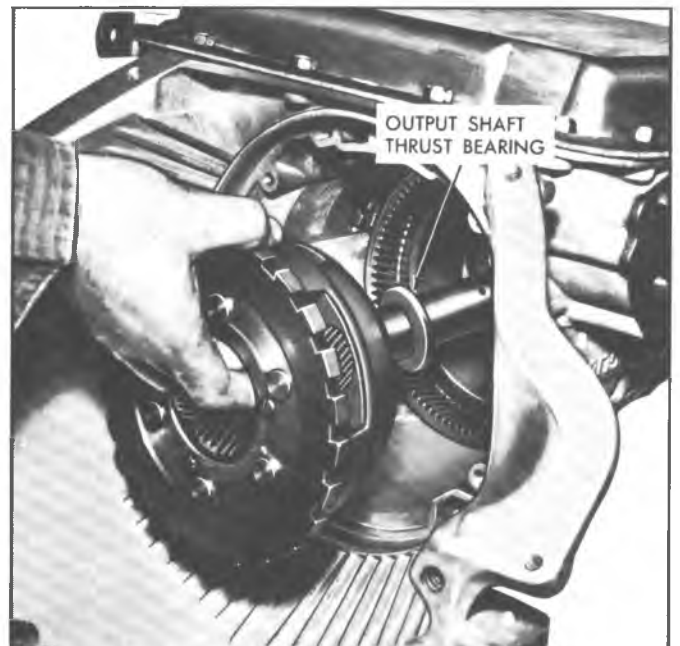

Fig. 31PG--Installing Gearset
15. Place the output shaft thrust bearing over the output shaft and install the planetary carrier and output shaft into the transmission case (fig. 31PG).